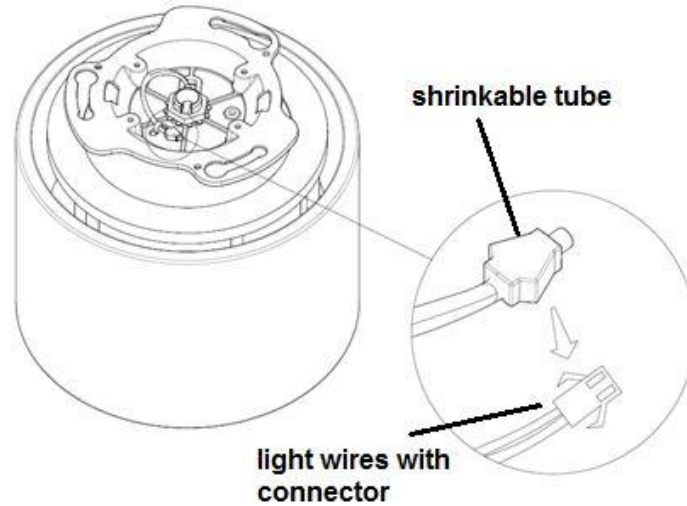

Fig. 9
- Remove the heat shrink tube from the connector. (Fig. 9)